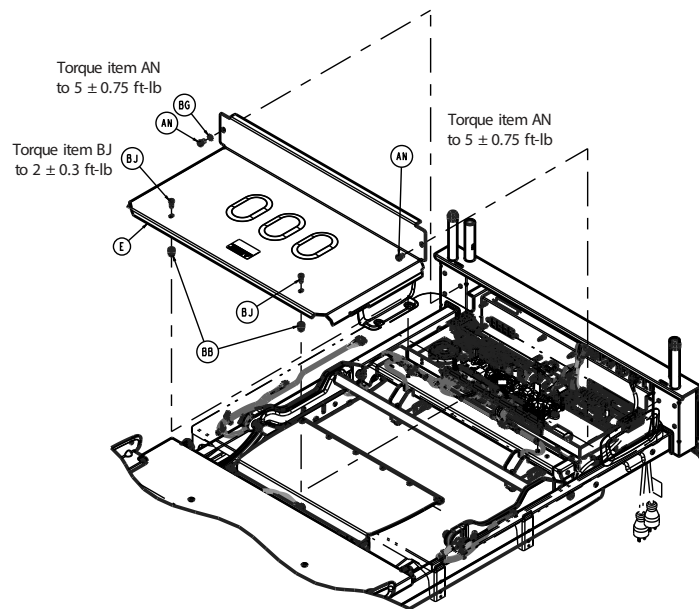

Figure 18 – Removing the cover
8. Using a T25 Torx driver, remove the two screws (BJ) that secure the electrical cover (E) to the litter (Figure 18). Save the screws.
9. Using a T27 Torx driver, remove the two screws (AN) and washers (BG) that secure the electrical cover (E) to the litter and remove the cover. Save the screws, washers, and cover.